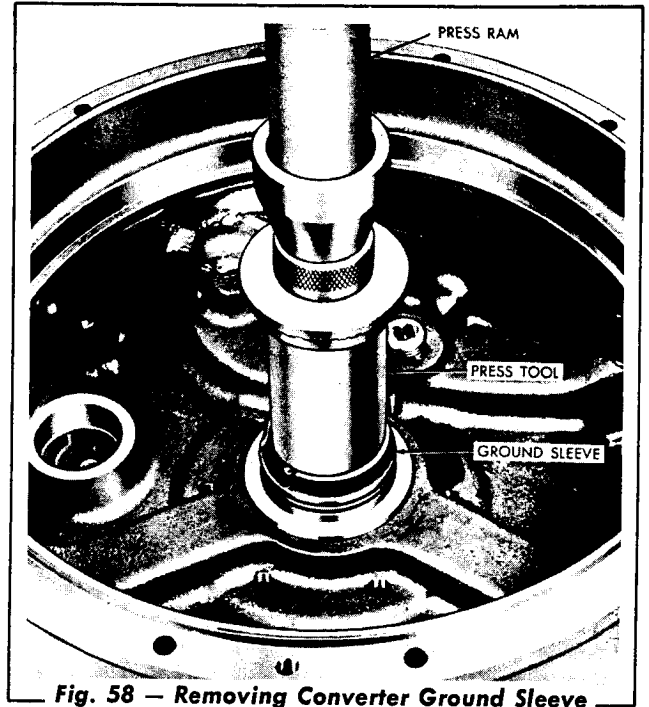

Fig. 58 — Removing Converter Ground Sleeve
- If necessary for parts replacement, remove the converter ground sleeve (19) by pressing the sleeve toward the front of the converter housing (Fig. 58). Be sure to press on the shoulder of the ground sleeve.
- If necessary for parts replacement, remove the bearings (30 and 32) from the gear (31).